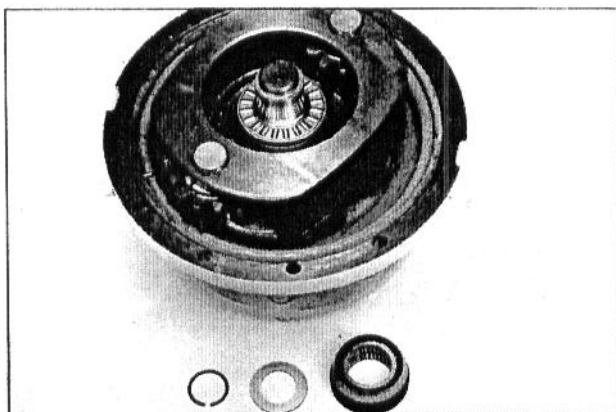

Fig. 102 - Radial Thrust Bearing Installed
10. Install the thrust bearing race and the radial thrust bearing. Refer to Fig. 102.